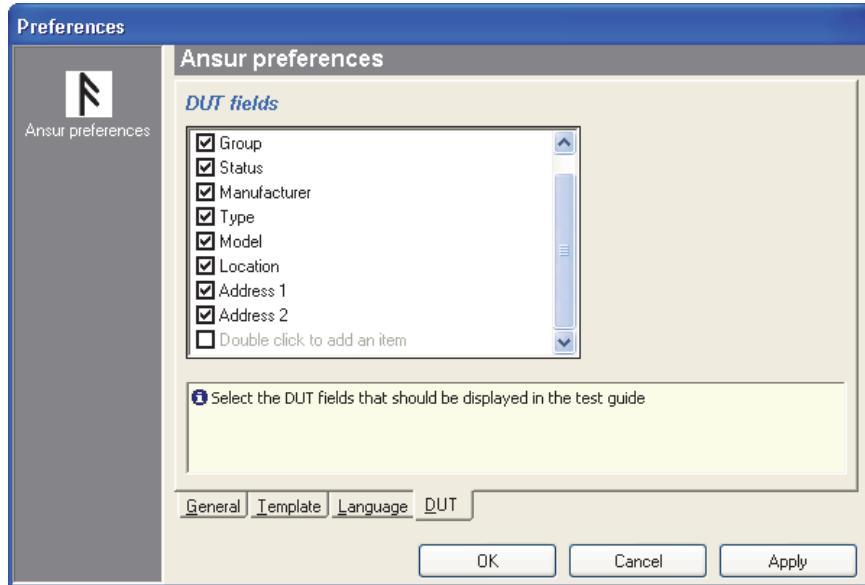

Figure 2-4. DUT Field Preferences Window
2. Click **Ansur Preferences** and then click the **DUT** tab. The DUT page opens. The default fields are shown in Figure 2-4. Each field name that is selected shows in the Test Guide window.